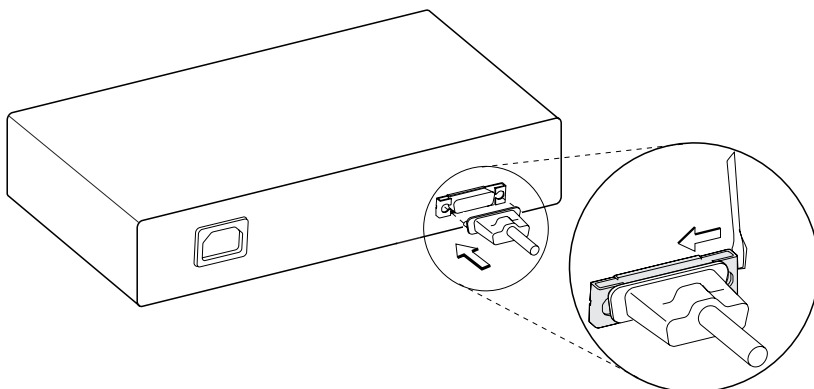

Figure 2-6. Pushing the Slide Latch on the AUI Port (Model 016 only)
- 2 To secure the AUI cable (or the 10BASE5, 10BASE2, or 10BASE-F transceiver) in place on the hub's AUI port, push the slide latch on the AUI port to the left. See Figure 2-6 for an illustration of how to push the latch.